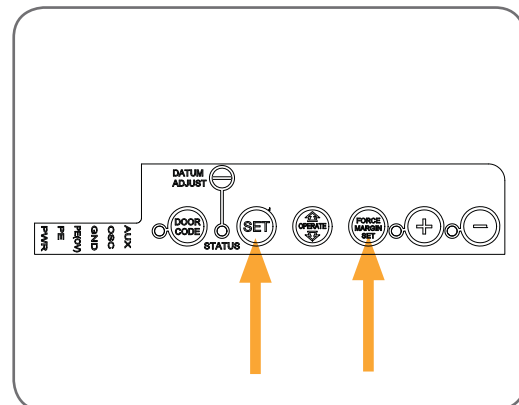

fig 36
- While holding down the FORCE MARGIN SET button, press the SET button for two (2) seconds. (**Fig. 36**)